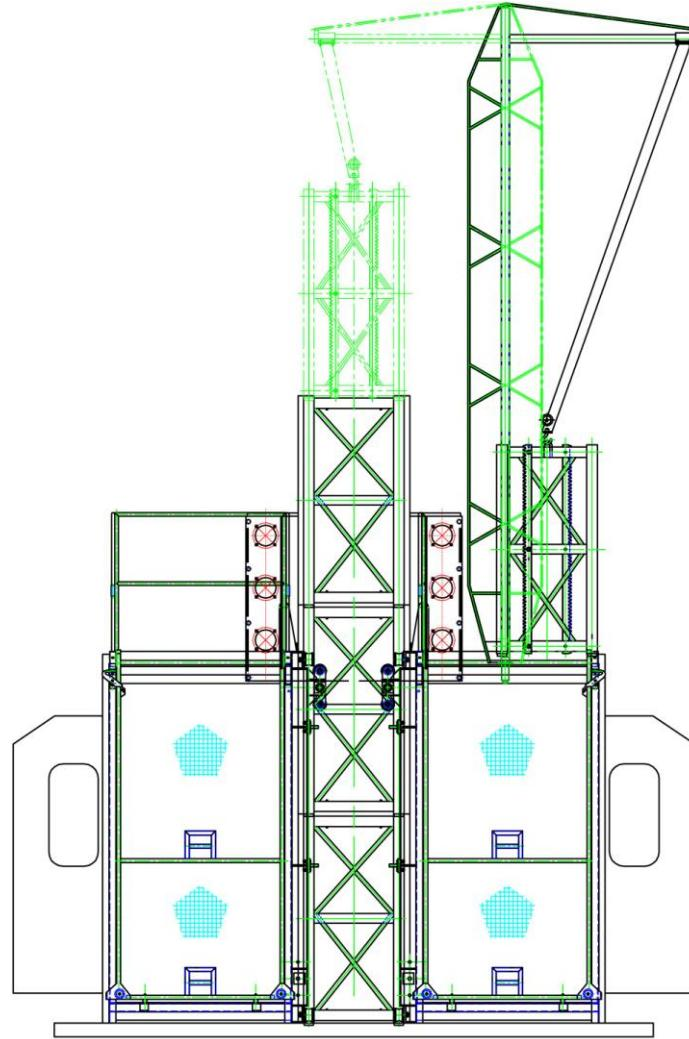

Figure 10
4.5.6 Hanging the mast section with electric elevatorcrane ,when the height is over the guide rail bracket about 20mm,turn the sleeve slowly, make the make the Interface properly, then put down the mast section slowly, four interface is perfectly.(see figure 10)